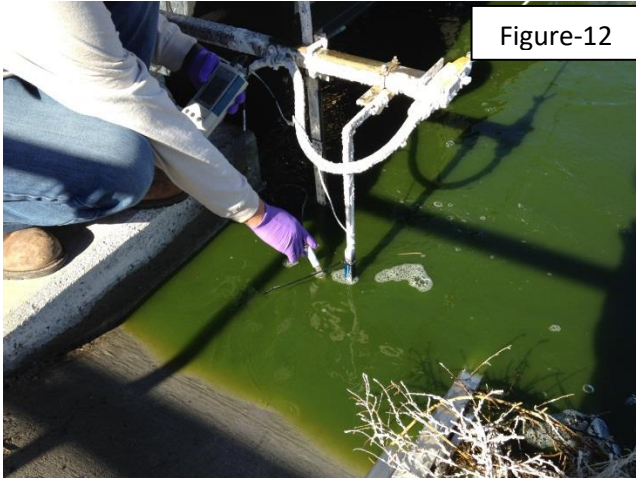

Figure-12
2.3.1.11.2 Submerge pH handheld probe into pond near PLC probe. See Figure-12 for location.